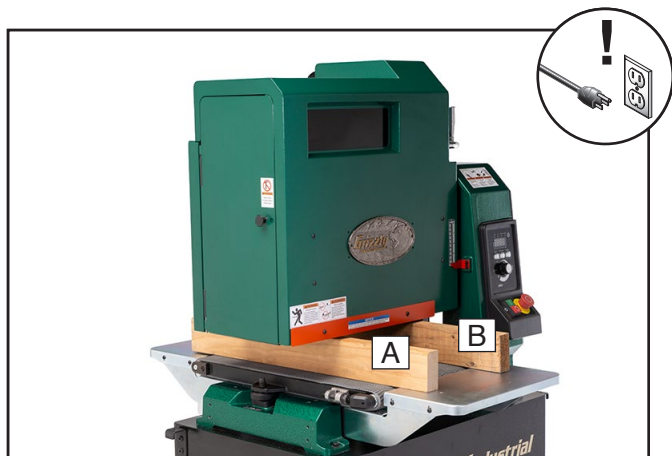

Figure 50. Example of gauge blocks placed under drum.
3. Place gauge blocks under drum, as shown in **Figure 50**, then lower drum until gauge blocks just touch drum.
5. Starting at board A (see **Figure 50**), find largest size feeler gauge that can pass between drum and gauge block. Feeler gauge should slide with moderate resistance, without forcing drum to roll.